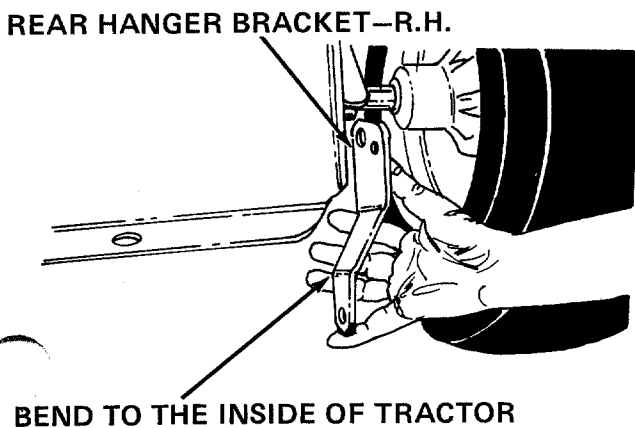

FIGURE 8
- Place the rear hanger brackets (W) over the rear hitch rod. See figure 8. Secure in place with hairpin cotters removed in step 6.
Rear hanger brackets **must be** assembled with the bend to the inside **only** as shown in figure 8.